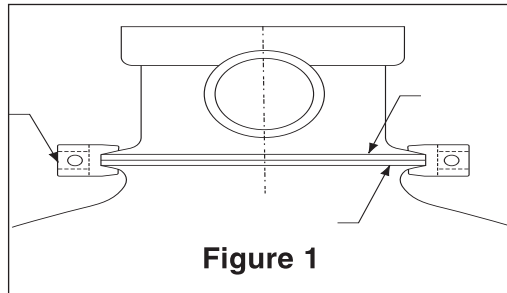

Figure 1
8. Insure that the valve is firmly pushed into the top of the tank and that the flange of the tank and the flange of the valve are contacting each other. See **Figure 1**.
9. The plastic clamp can now be installed. Place the clamp half over the valve flange and the tank flange as shown in **Figure 1**. Insert the clamp screws and nuts into the clamp making sure that the nuts are located in the special hexagonal retainer slots on the clamps. See **Figure 2**.